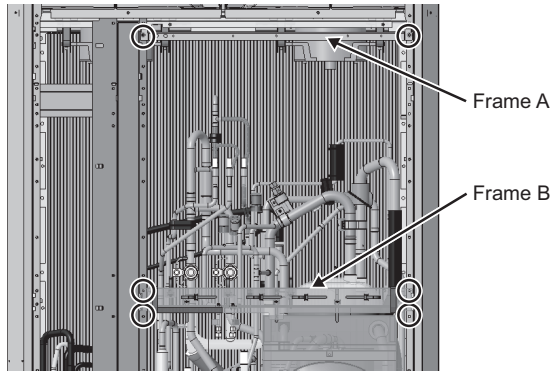

Fig. 32
- (4) Remove the wires that are secured to frame B and remove frames A and B. (Six screws: Fig. 32)